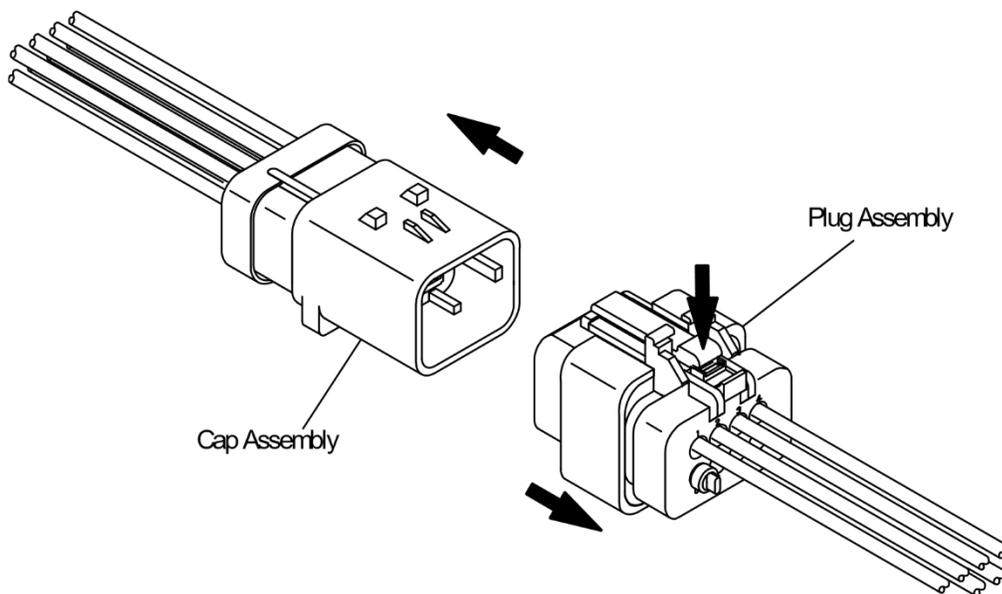

Figure 12
2. Depress the end of the connector latch pad near the rear (wire end) of the plug housing. Continue to squeeze the latch pad and pull on the rear housing section to separate the mated connector assembly. See Figure 12.